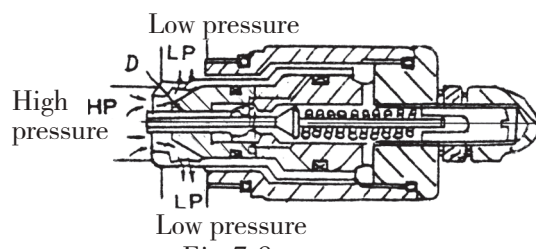

Fig.7.8
(4) As compared to the pressure at the cylinder port “HP” side, the inner pressure becomes unbalanced, causing the relief valve poppet “D” to open and thereby sending the oil directly to the low-pressure passage “LP”. (See fig.7-8)